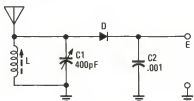

FIG. 5
5. Regarding the circuit shown in Fig. 5: